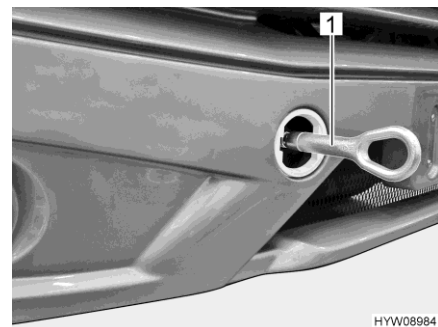

Fig. 44 Towing eye (mounted)
- Mount the towing eye (Fig. 44,1) in accordance with the instructions in the operating manual of the base vehicle.